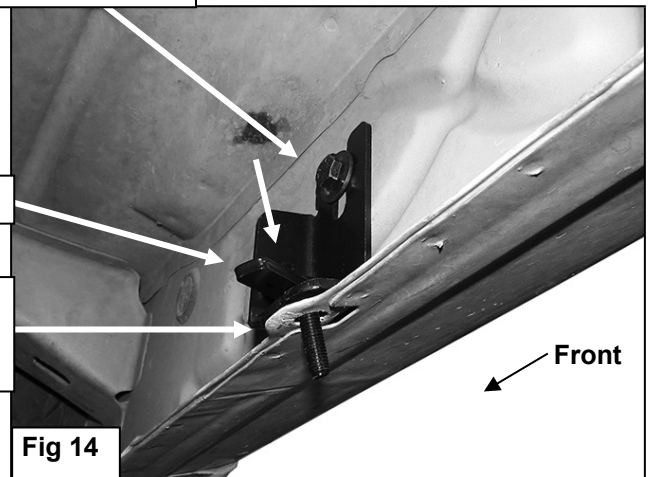

Fig 14
**On models with flat tab and 8mm Bolt Plate (see Fig. 14) use: